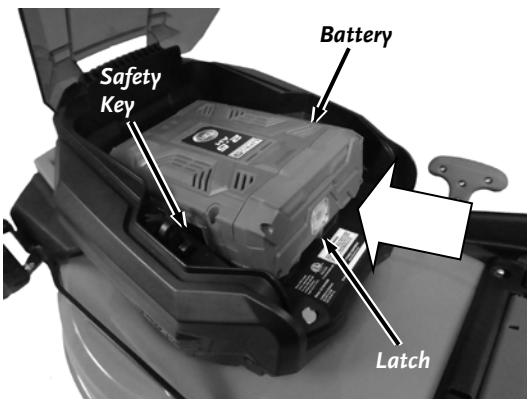

Figure 8
1. Open the Battery Cover and insert the Battery into the Mower (**Figure 8**). Ensure the Battery is pushed in completely so the Latch locks it in place.